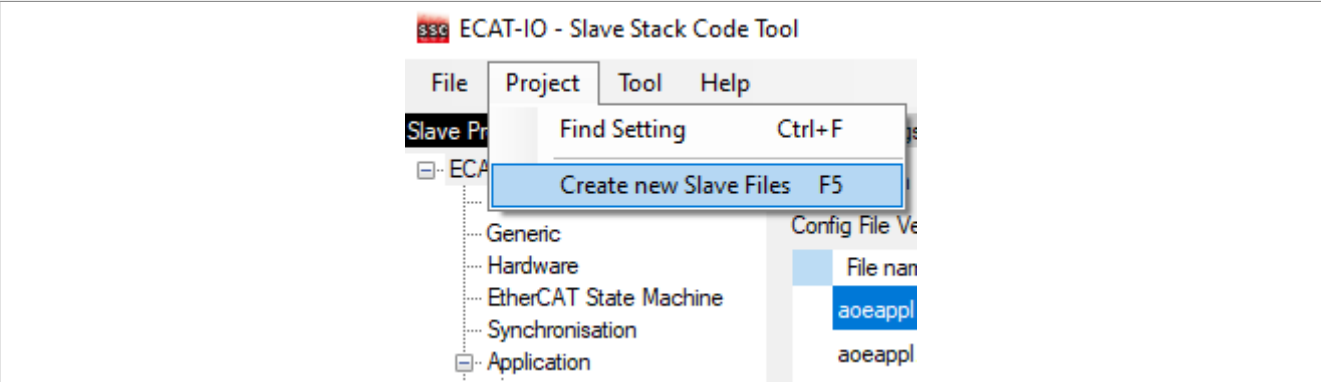

Figure 17. Creating new Slave files
9. After creating or importing an Application file, create new slave files, as shown in Figure 17. Click **Project > Create new Slave Files**.